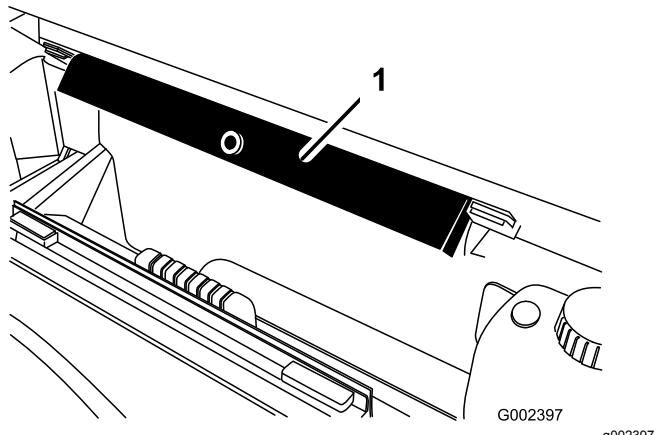

Figure 42
7. Remove the bed support from the storage brackets on back of the ROPS panel (Figure 42).